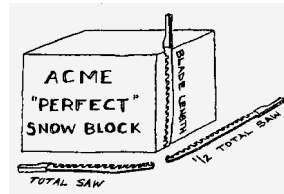

Figure 11-10: Snow block sizing.
- Calculate the ideal block size as shown below in figure 11-10.